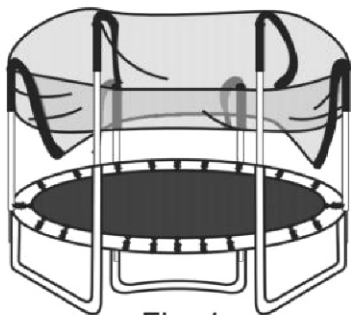

Fig. 1
Step 9:Start installing the Safety Net (J) to the poles by inserting the beginning of the sleeve on the Poles until it reaches 2ft and continue doing the same to all poles as figure 1. Pull down each sleeve, a few inches at a time till all sleeves reach the bottom of enclosure frame as shown in figure 2.